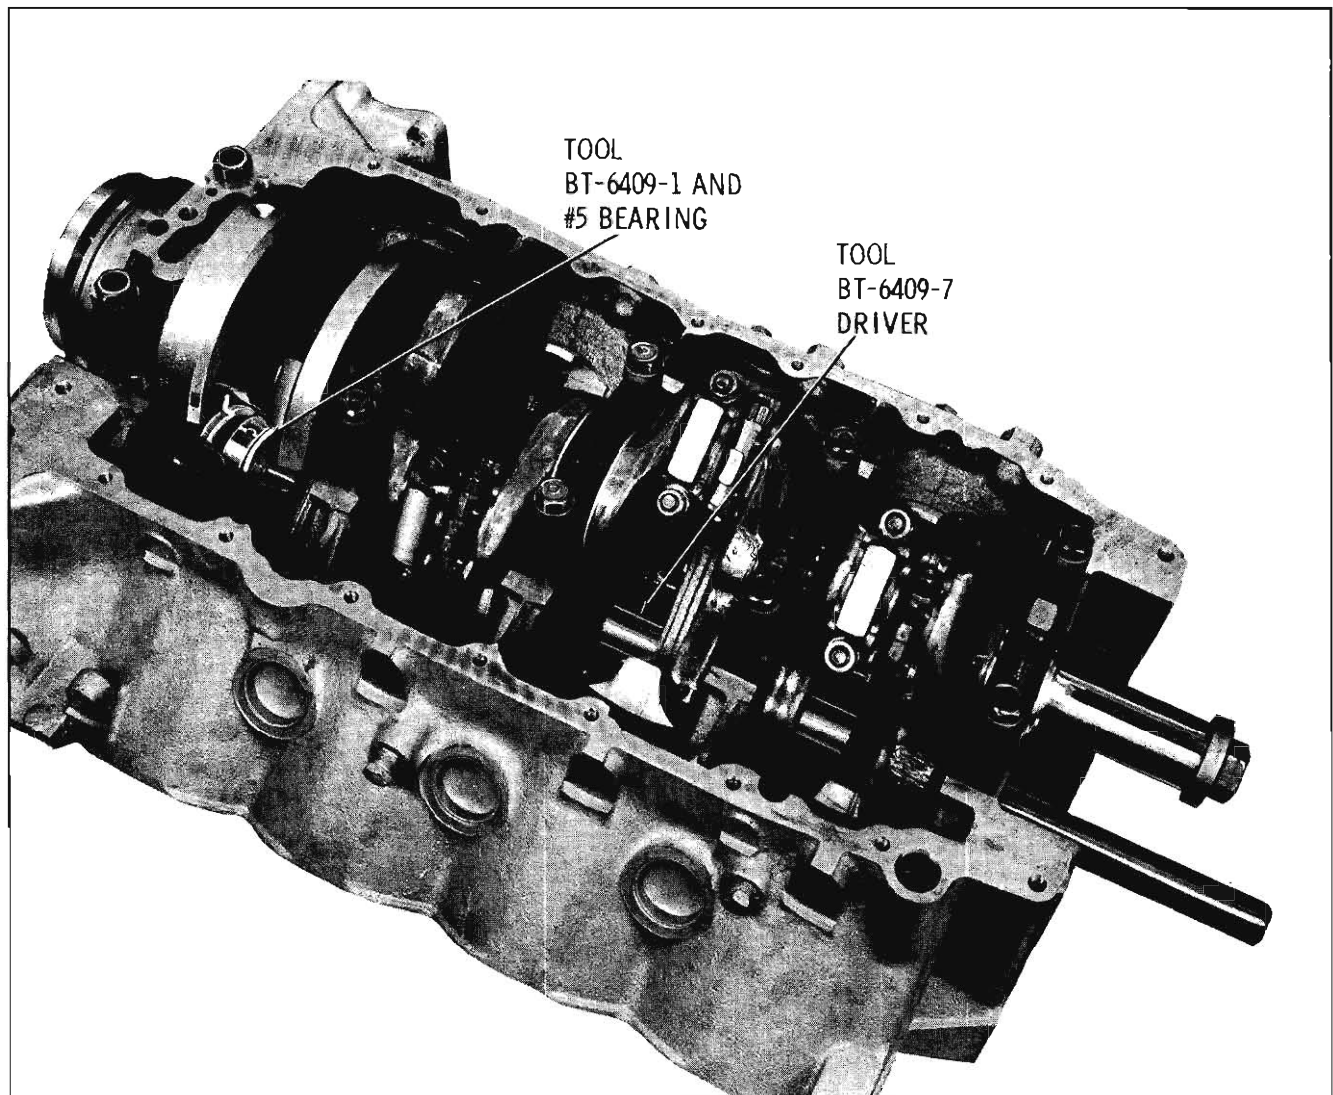

Fig. 3-445A Installing Rear Cam Bearing
1. Place new #5 bearing on BT-6409-1 and drive bearing in until the last white line on the installer is flush with the front face of the pilot. (Fig. 3-445A)